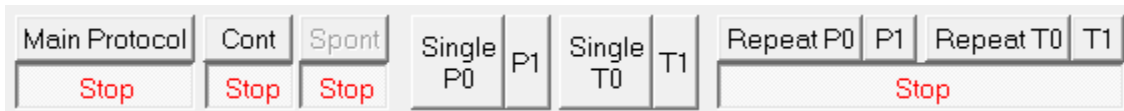

Fig. 2.15.2. The Run buttons.
1. Click the **'Main Protocol'** button (Fig. 2.15.2), then